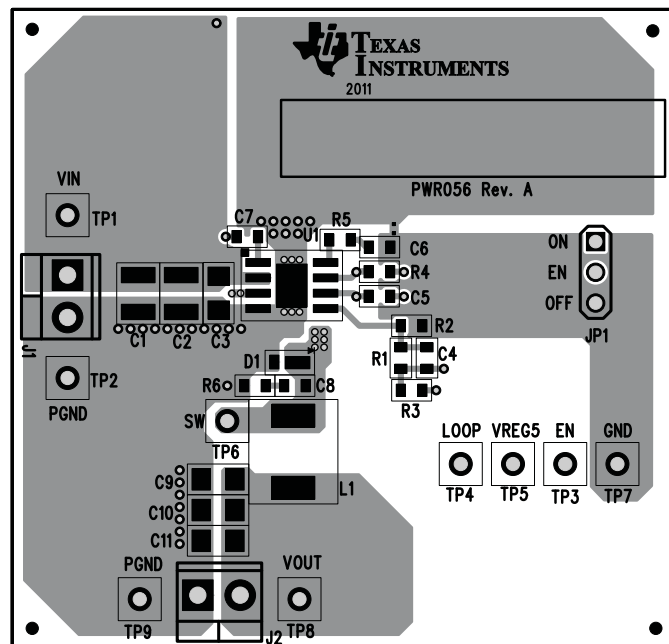

Figure 13. Top Assembly
The board layout for the TPS54239EVM-056 is shown in Figure 13 through Figure 17. The top layer contains the main power traces for VIN, VO, and ground. Also on the top layer are connections for the pins of the TPS54239 and a large area filled with ground. Many of the signal traces also are located on the top side. The input decoupling capacitors are located as close to the IC as possible. The input and output connectors, test points, and all of the components are located on the top side. An analog ground (GND) area is provided on the top side. Analog ground (GND) and power ground (PGND) are connected at a single point on the top layer near C6. The two internal layers are completely dedicated to power ground planes. The bottom layer is primarily power ground. A copper pour area on the bottom layer is used to connect the switching node (SW) to the output inductor and the boost capacitor. Traces also connect enable control jumper, EN, VREG5, and LOOP test points, and the feedback trace from VOUT to the voltage setpoint divider network.